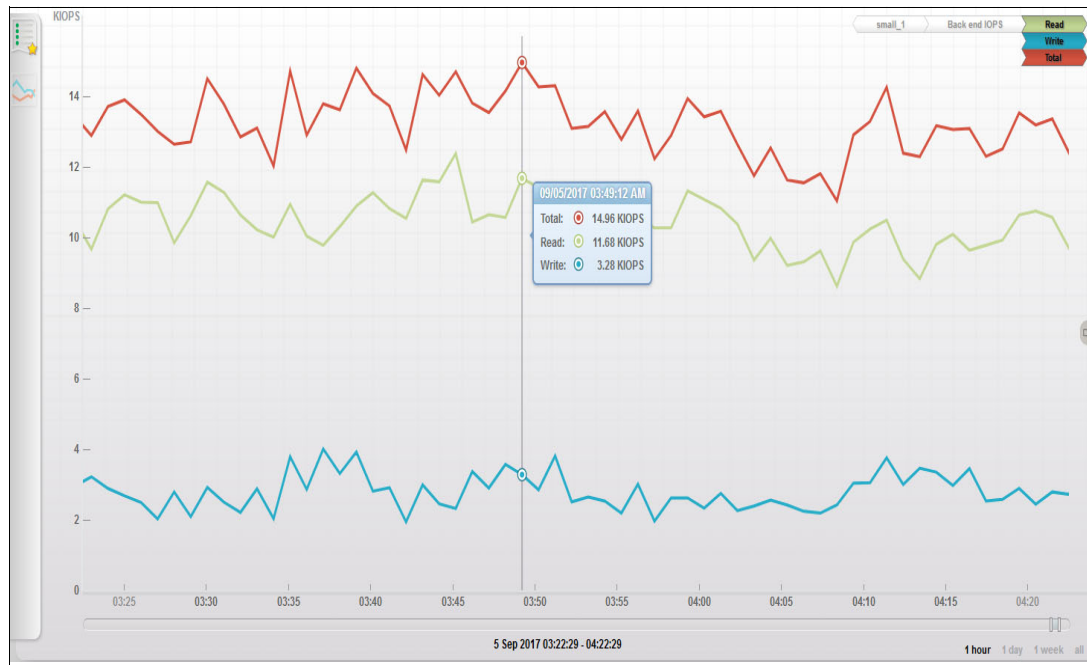

Figure 11-133 Pool performance graph
4. Draw the graph, which is shown in Figure 11-133.